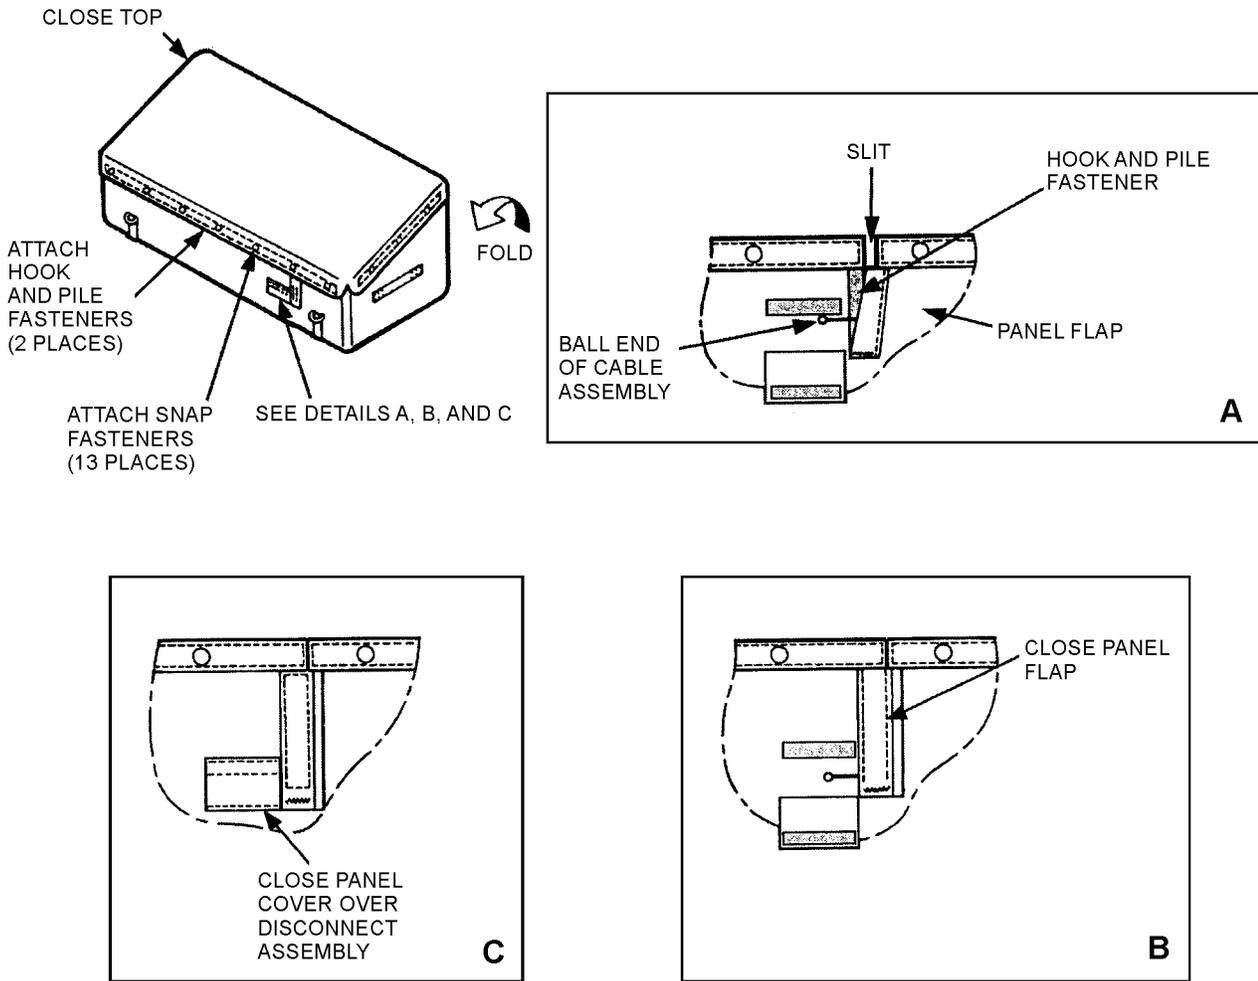

Figure 14-5. Closing the Liferaft Carrying Case
7. Close the carrying case by securing hook and pile fasteners and snaps. Ensure the actuation cable is routed through the actuation cable access flap located on the front of the carrying case (figure 14-5).